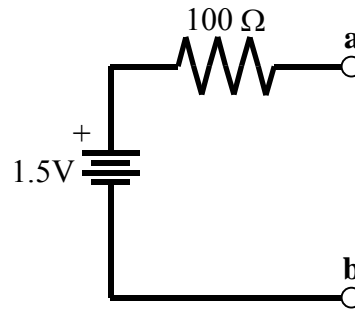

Figure P2-1 - Battery circuit
a. (5 points) Connect a 100 Ω resistor and the 1.5 V AA battery as shown in Figure P2-1. Measure the open circuit voltage and the short circuit current at the circuit terminals, marked a and b in Figure P21. Do NOT short circuit the battery all by itself, i.e. always have the 100 Ω resistor in the circuit. If you like, you can find current by measuring the voltage across the resistor and applying Ohm's Law. This is a safer way of measuring current than using an ammeter. If you do this, consider whether you should use the nominal or measured value of the resistance.